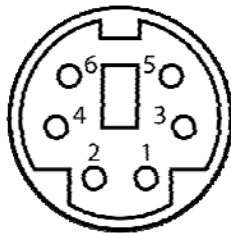

Figure 3-21: PS/2 Pinout and Configuration
- CN Pinouts:** See **Table 3-19, Figure 3-21**